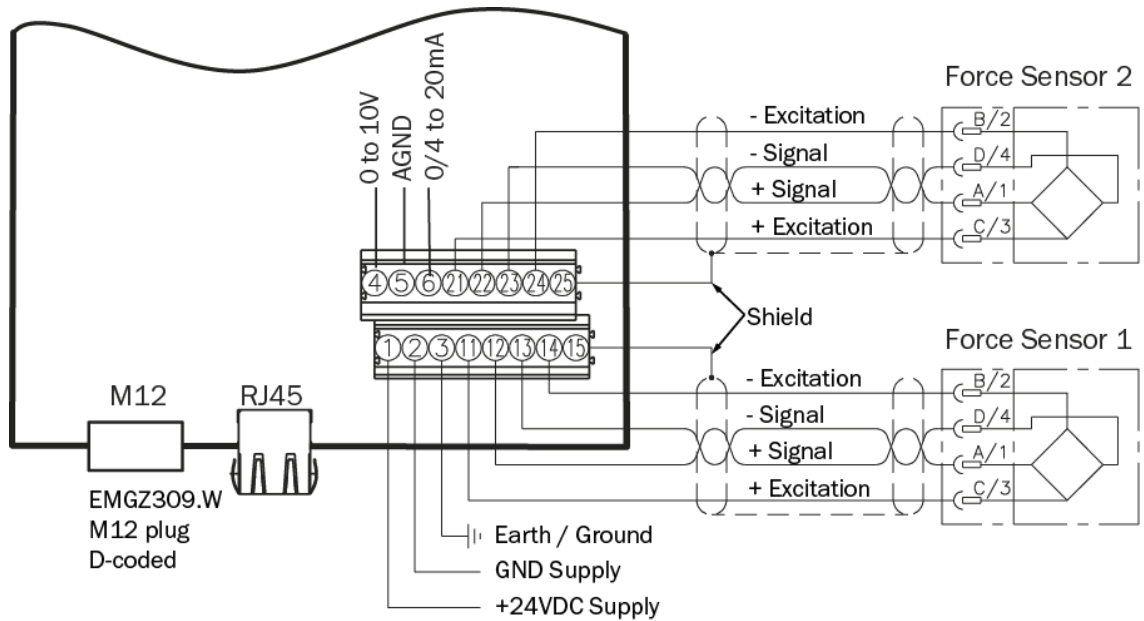

Fig. 3: Wiring Diagram EMGZ309
2. Wire the Force Measuring Sensor(s) (ref. to Fig. 3)
1. Connect the first force sensor (see Fig.3 Wiring Diagram EMGZ309)